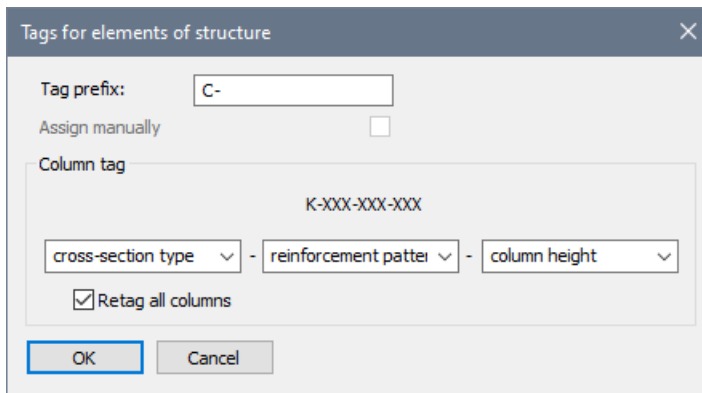

Figure 27.7. Tags for elements of structure dialog box
- ⇒ In the **Tags for elements of structure** dialog box (see Fig. 27.7), define the following data: